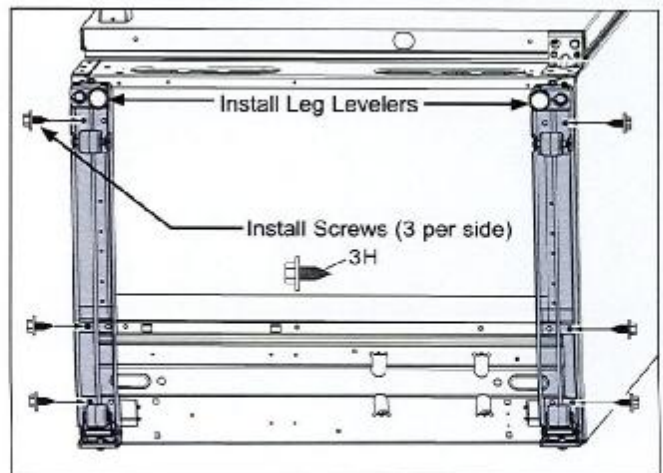

Figure 4.
4. a. Attach the current leg leveler to leveling system. The leg leveler is a common part that will work on both bottom sides of the unit. (See Figure 4).
b. Attach leg leveler with three (3) screws per side using a 3/8 socket.